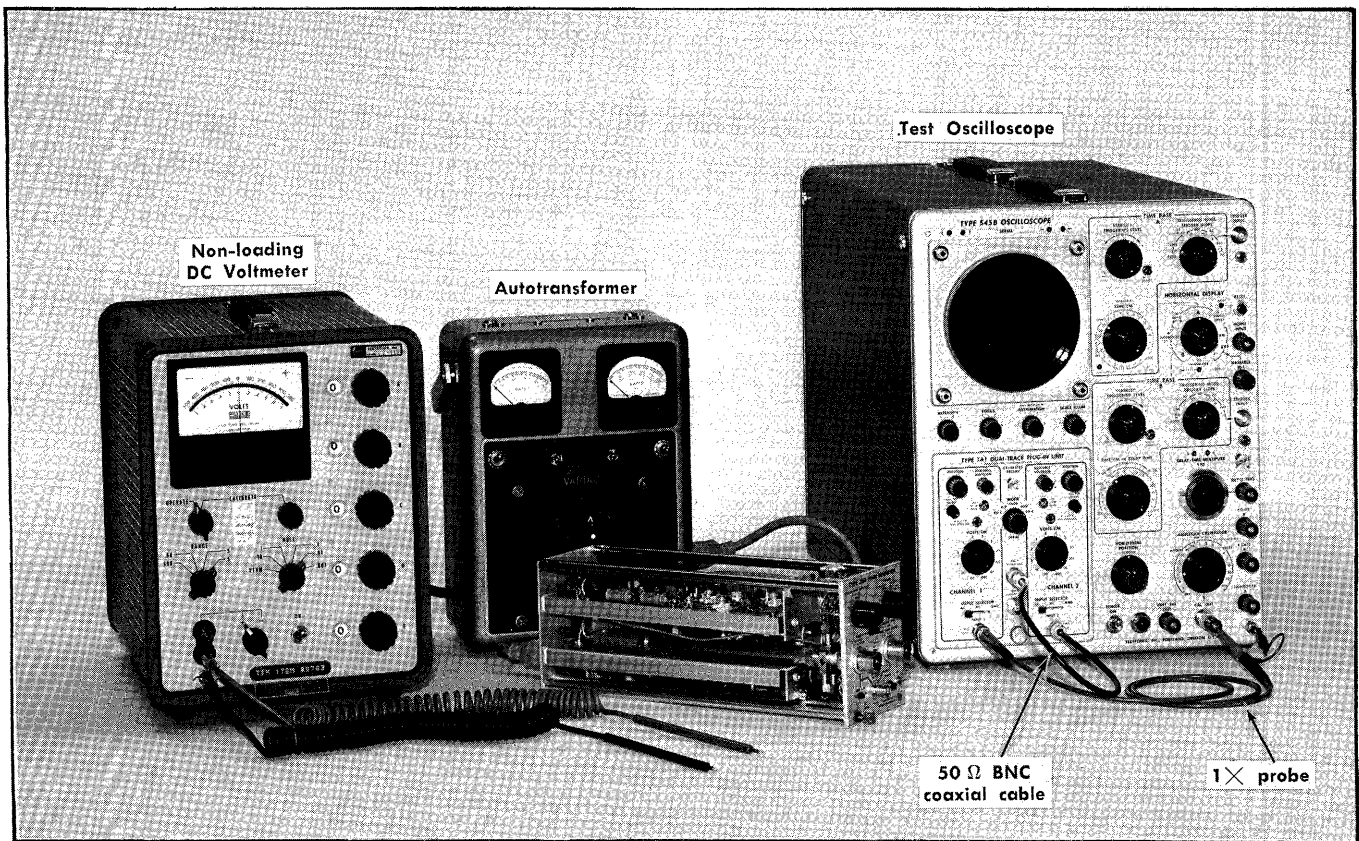

Fig. 6-3. Equipment setup for power supply checks, steps 1 through 3.
a. Use the equipment setup shown in Fig. 6-3, and connect the nonloading DC voltmeter between +20 V, TP226, and ground, TP266. The power supply voltage test points and controls are shown in Fig. 6-4.
a. Equipment setup is shown in Fig. 6-3.